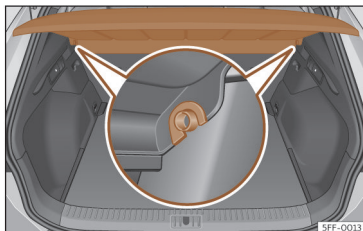

Fig. 184 In the boot: removing and installing the shelf.
- Remove the rear shelf from the side supports >>> **Fig. 184** by pulling it upwards and then take it out.
- Insert the cover horizontally so that the "recess" fits onto the axis of the supports >>> **Fig. 184** and press down until it engages.